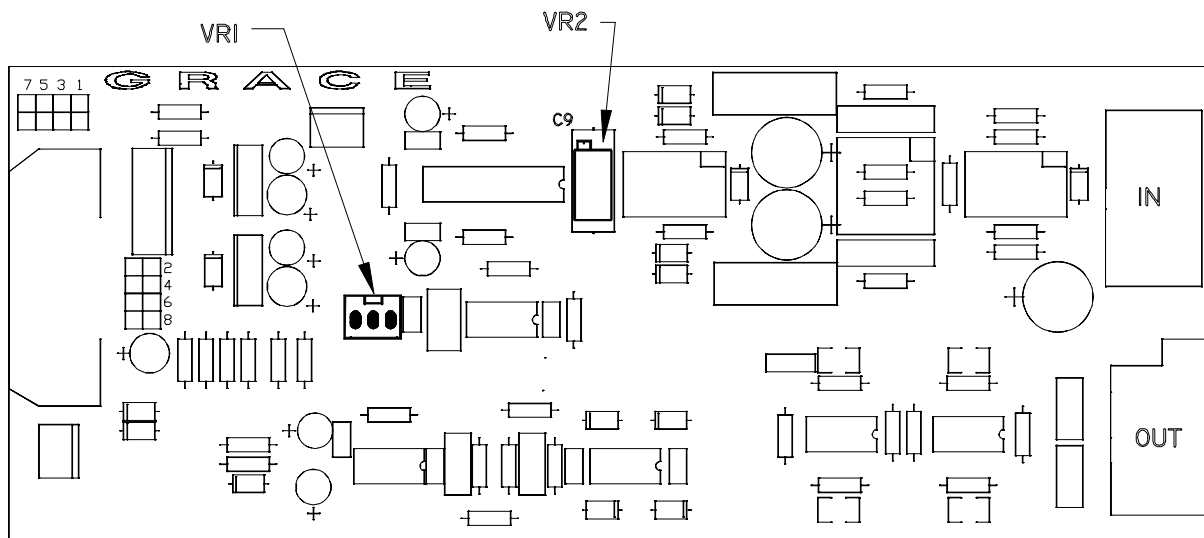

Figure 7. PEAK LED ADJ. VR1 AND OFFSET ADJ. VR2 LOCATIONS
- vi. Locate VR1 on the channel 1 audio circuit board. (See figure 7) Adjust VR1 until the peak LED is between green and red. The color should appear amber when the setting is correct.
- vii. Remove the top lid and locate potentiometer VR2. (See Figure 7.)